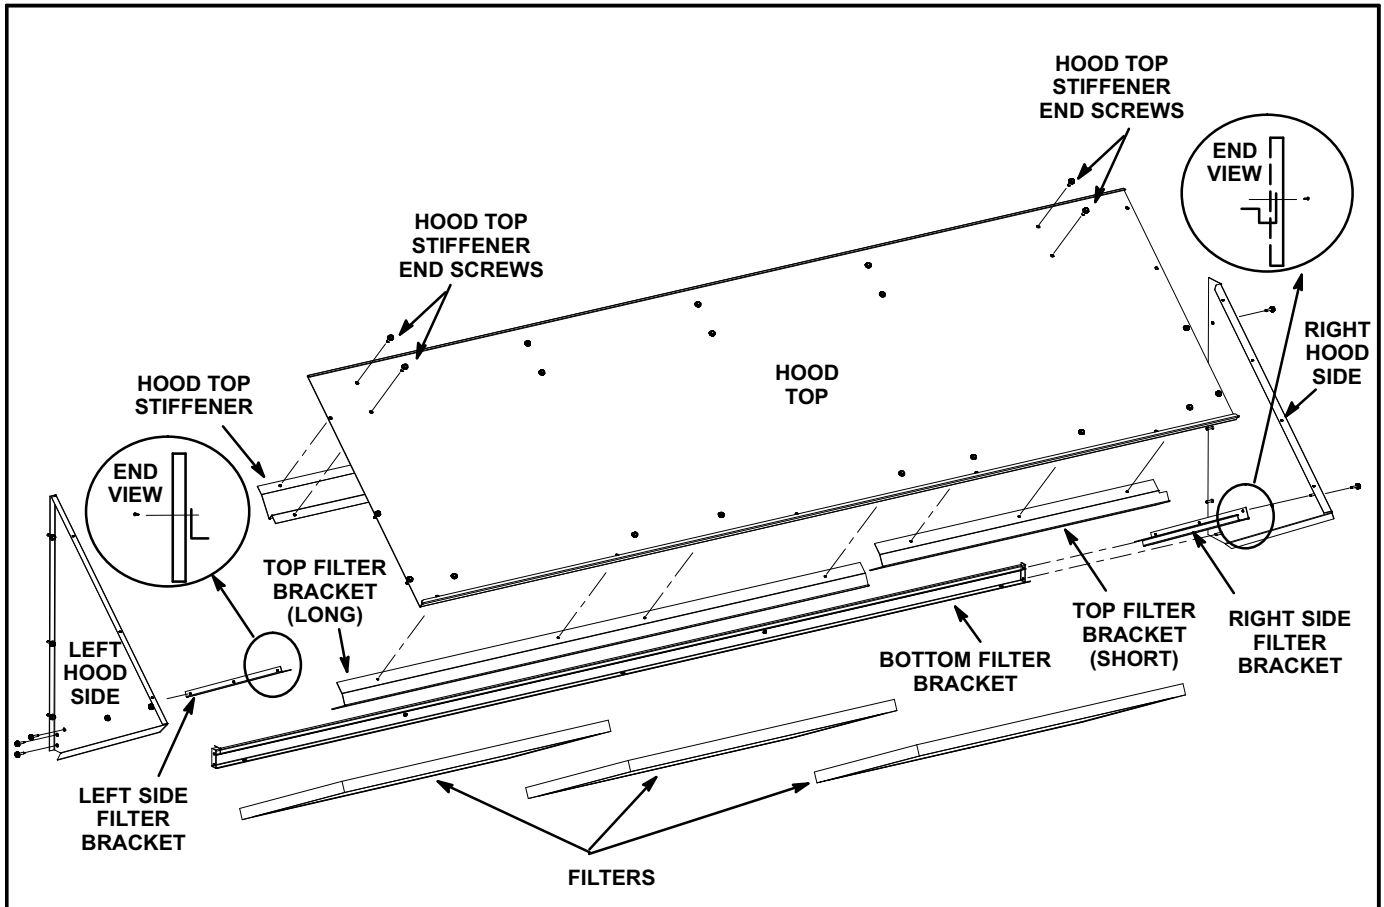

FIGURE 10
- 8- Install L-shaped left side filter bracket to left hood side. See figure 10.
- 10- Install the right side filter bracket to the right hood side. See figure 10.